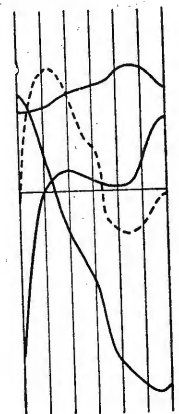
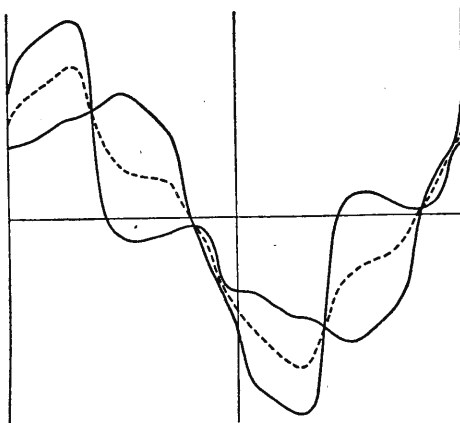
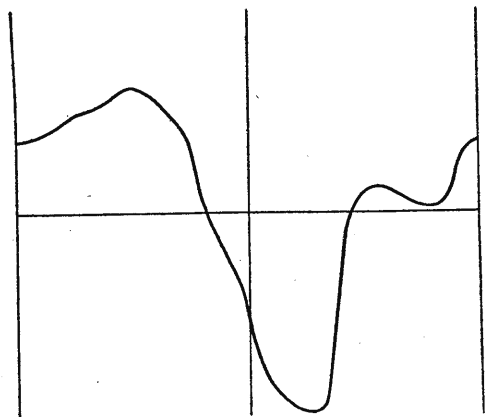
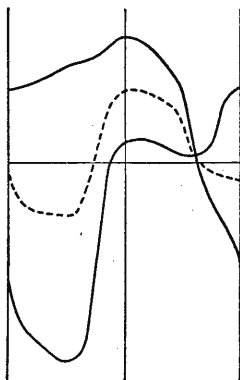

Fig. 4. Plotting the sum of three curves.
Fig. 7. The broken line contains the odd harmonics.
Fig. 6. The waveform to be analysed.
Fig. 8. The broken line contains the even harmonics.
posed on the *left* of the original, and the *left* half superimposed on the *right* of the original, as shown in Fig. 7, taking care that the horizontal axis and the appropriate ordinates are in register during each operation. The mean of these two curves is then drawn, and this curve, shown by the broken line in Fig. 7, contains all the odd harmonics of the original wave, and none of the even.
**Method of Superimposition:** A similar, but more elaborate, method can be used to isolate other groups of harmonics. Suppose we divide the tracing of Fig. 6 into three equal parts by drawing the  $0^\circ$ ,  $120^\circ$ ,  $240^\circ$  and  $360^\circ$  ordinates, and superimpose the three sections of the curve on one diagram as shown in Fig. 4. It is then possible to draw the sum of these three curves. A number of spaced ordinates are drawn as shown, and a point is plotted on each of these by adding the  $y$ -values of the three curves on this particular ordinate, using compasses to step
off the distances, and bearing in mind that the values may be either positive or negative and must be added algebraically. One must be systematic over this, and a suggested method is as follows: starting with the compass point on the horizontal axis step off the height of the uppermost curve on this ordinate. The quantity represented by the compass will then be positive if the pencil is above the point, and negative if it lies below, *and this rule applies throughout the operation.* To add the ordinate of the second curve, move the compass *without turning* so that the *pencil* is on the horizontal axis, locate the point (still on the same ordinate), and open or close until the pencil is on the second curve. (It may be necessary to turn the compass through  $180^\circ$ , and this merely signifies that the addition has changed the sign of the quantity represented by the compass.) Deal with the third curve in the same way, remembering always to return the *pencil* point to the horizontal axis before altering the compass setting. The final setting is now stepped off upwards or downwards as the case may be, with the *compass* point now on the horizontal axis and a mark made, showing a point on the required summation curve. This is shown in Fig. 4.
What does this summation curve represent? In the present case it contains only the harmonics Nos. 3, 6, 9, etc., together with No. 0. In general terms the result of dividing a curve into  $n$  sections, superimposing, and drawing the summation curve, is to isolate harmonics,  $0, n, 2n, 3n$ , etc. But note carefully that the scale on which these harmonics are represented is magnified  $n$  times. This means that the broken curve on Fig. 4 would give harmonics 3, 6, etc., on a scale three times the original.
**Typical Application:** We shall illustrate the use of all these methods by analysing the curve of Fig. 6 as far as the eighth harmonic. From the general appearance of the curve it is clear that no higher harmonic is unduly prominent. While those of higher order than, say, the twelfth, may be completely disregarded, it is advisable not to assume, for example, that the ninth is sufficiently small to have no effect on the third, if we use a method which fails to separate the two.
- (1) Reduce the given curve to standard scale. Fig. 6 is assumed to be already in this form.
- (2) Prepare grids for the fifth, sixth and seventh harmonics.
- (3) Trace Fig. 6. By using the methods described obtain the odd harmonics on Fig. 7 and the even harmonics on Fig. 8.
- (4) Mark the 90° ordinate on Fig. 8 and trace the broken curve. By a complete repetition of process (3), obtain on Fig. 9 the harmonics 2, 6, 10, etc. (i.e., the "odd" even numbers) and on Fig. 10 the harmonics 0, 4, 8, etc. (i.e., the "even" even numbers).
(7) Apply the appropriate grid to the resultant of Fig. 7 to determine the fifth harmonic.
(8) Apply the appropriate grid to the resultant of Fig. 7 to determine the seventh harmonic.
(9) Trace the broken curve of Fig. 7, mark the  $120^\circ$  and  $240^\circ$  ordinates and use the method of